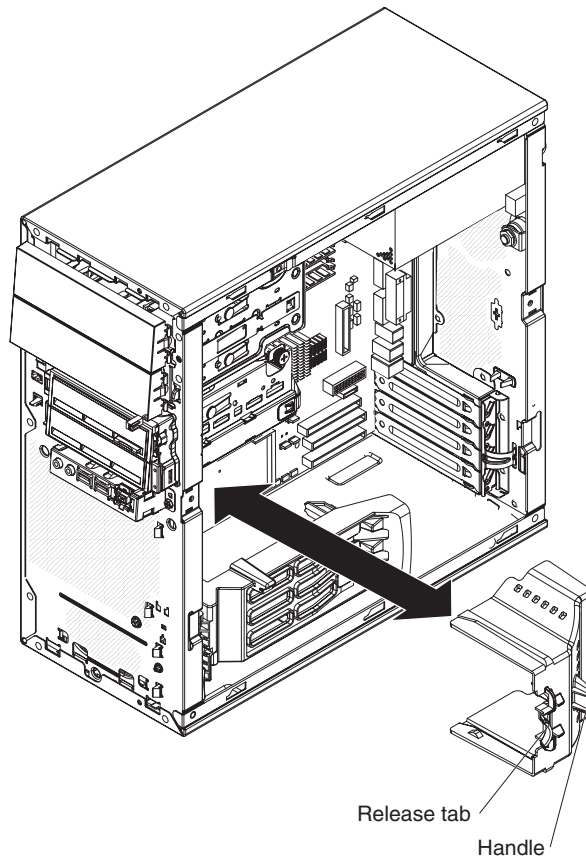

Figure 19. Installing the air baffle
6. Position the air-baffle over the end of the fan housing and the edge of the heat sink; then, press it in place until it locks securely (see Figure 19 on page 84).